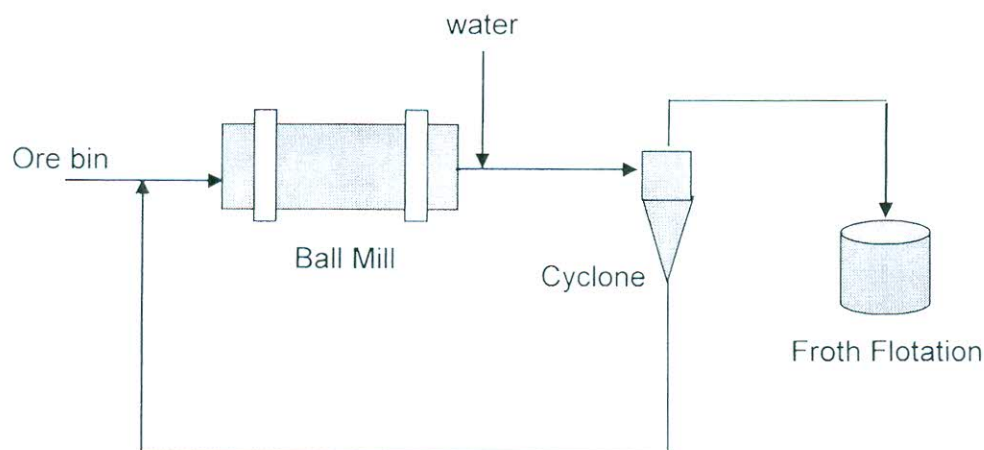

Figure 4
6. [a] The flowsheet shown in Figure 4 illustrates a conventional closed circuit grinding operation. The cyclone overflow line is instrumented with magnetic flowmeter and nuclear density gauge, and the mass of dry ore fed to flotation is 25 t/h. The feed from the fine ore bin is sampled and is found to contain 5% moisture. The cyclone feed contains 33% solids, the cyclone underflow 65% solids and overflow 15% solids. Calculate the circulating load on the circuit and the amount of water required to dilute the ball mill discharge.